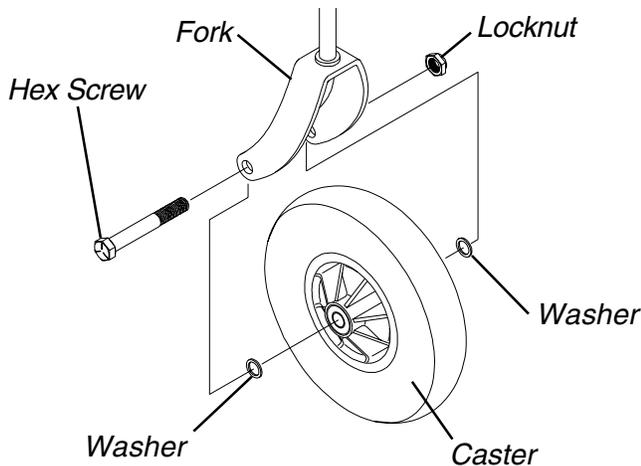

FIGURE 2 - REPLACING CASTERS
**REPLACING CASTERS (FIGURE 2)**